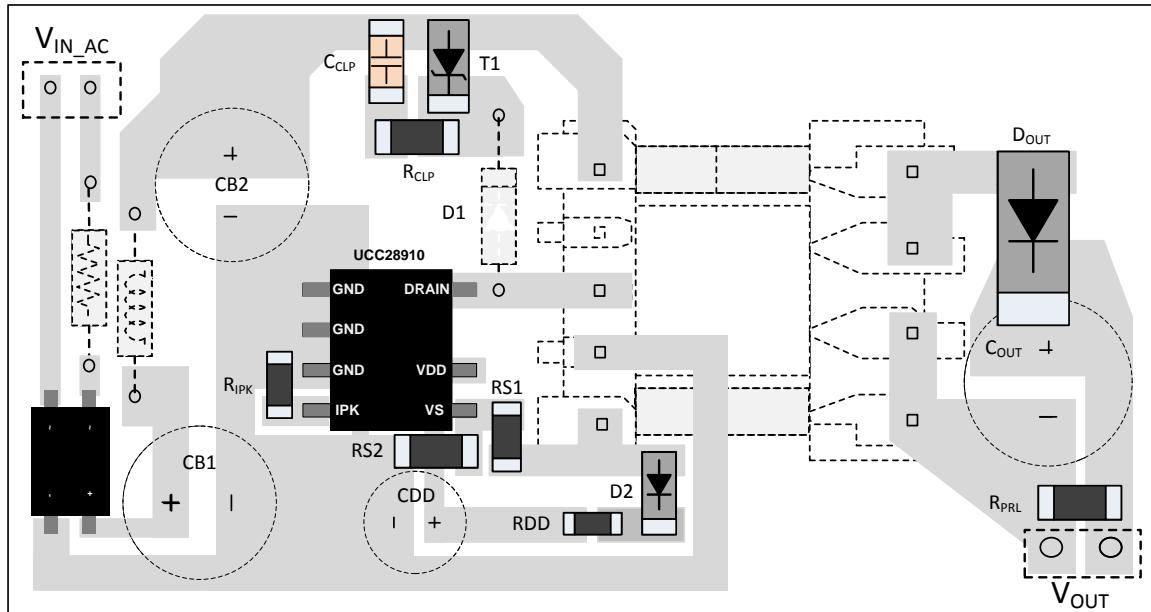

Figure 52. UCC28910 Layout Example
5. Place the auxiliary voltage sense resistor divider (R_{S1} and R_{S2} in Figure 52) directly on the VS pin keeping traces as short as possible.